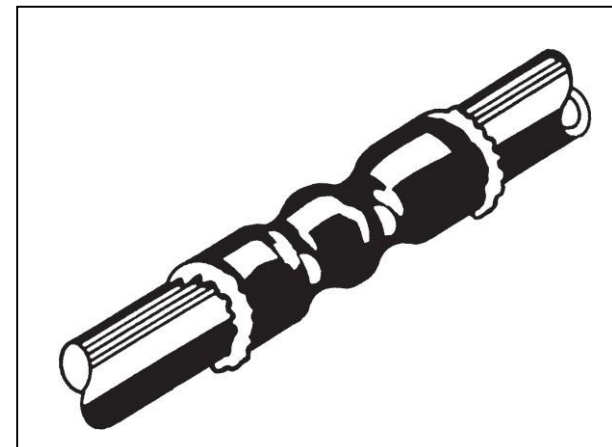

Figure 29
4. For crimp-and-seal splice sleeves: Using a hot air gun, apply heat to the splice sleeve. As the sleeve shrinks, the glue inside will begin to melt. When the sleeve stops shrinking and glue appears at the ends of the sleeve (Figure 29), remove heat. Allow to cool.